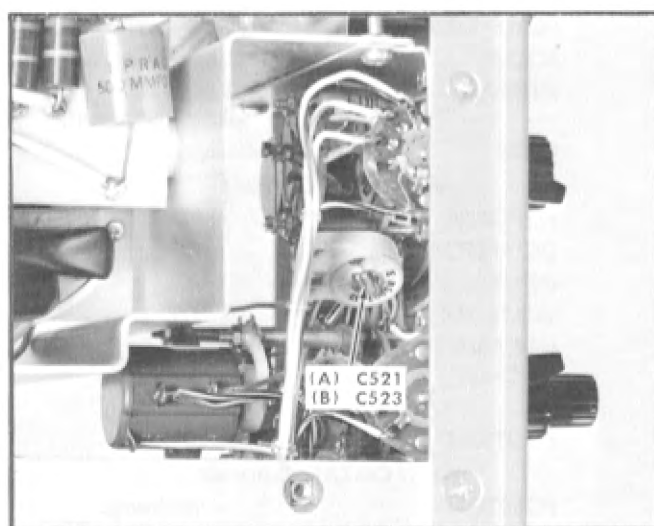
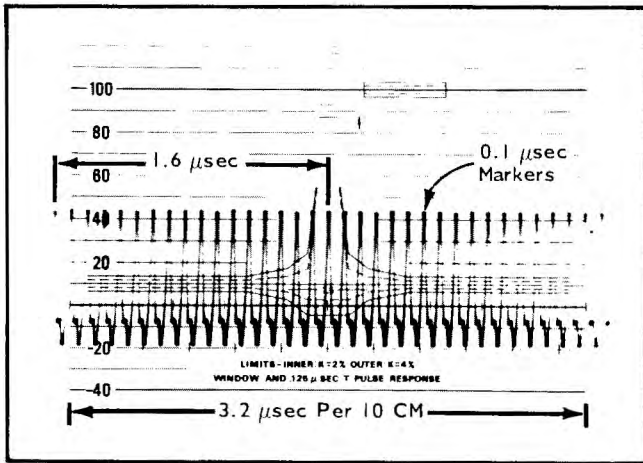

Fig. 6-19. Location of (A) C521 SN 101-1605 (B) C523 SN 1606 and up adjustment.
Fig. 6-20. Adjusting C523 for optimum $\times 25$ sweep linearity.
- e. Adjust the horizontal sweep magnifier capacitor (C523 or C521; see Fig. 6-19), primarily for sweep timing and secondarily for linearity. For correct timing, 32 time markers per 10 cm should be displayed (see Fig. 6-20). For checking linearity, display should show 8 time markers for any 2.5-cm portion of the display.